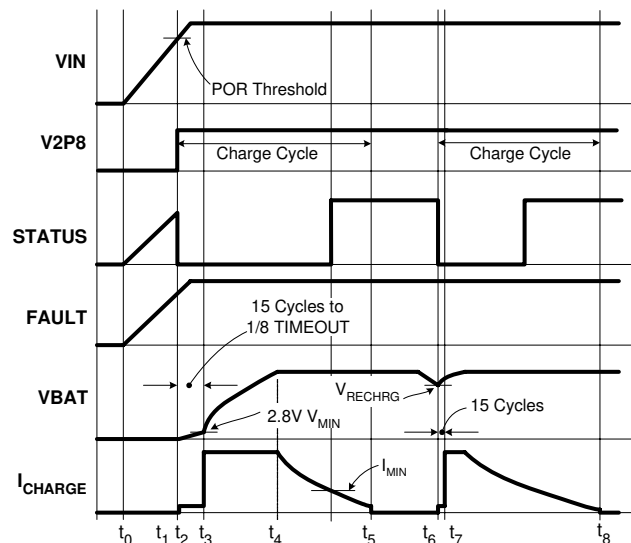

FIGURE 19. OPERATION WAVEFORMS
Figure 19 illustrates the typical signal waveforms for the linear charger from the power-up to a recharge cycle. More detailed Applications Information is given in the following.
The two indication pins, STATUS and FAULT, indicate a LOW and a HIGH logic signal respectively. Figure 19 illustrates the start-up of the charger between  $t_0$  to  $t_2$ .
A charge cycle consists of three charge modes: trickle mode, constant current (CC) mode, and constant voltage (CV) mode. The charge cycle always starts with the trickle mode until the battery voltage stays above  $V_{MIN}$  (2.8V typical) for 15 consecutive cycles of the internal oscillator. If the battery voltage drops below  $V_{MIN}$  during the 15 cycles, the 15-cycle counter is reset and the charger stays in the trickle mode. The charger moves to the CC mode after verifying the battery voltage. As the battery-pack terminal voltage rises to the final charge voltage  $V_{CH}$ , the CV mode begins. The terminal voltage is regulated at the constant  $V_{CH}$  in the CV mode and the charge current is expected to decline. After the charge current drops below  $I_{MIN}$  (programmable for the 4x4 and 5x5 package and programmed to 1/10 of  $I_{REF}$  for the 3x3 package; see "End-of-Charge (EOC) Current" on page 13 for more detail), the ISL6292 indicates the end-of-charge (EOC) with the STATUS pin. The charging actually does not terminate until the internal timer completes its length of TIMEOUT in order to bring the battery to its full capacity. Signals in a charge cycle are illustrated in Figure 19 between points  $t_2$  to  $t_5$ .
After a charge cycle completes, charging is prohibited until the battery voltage drops to a recharge threshold,  $V_{RECHRG}$  (see “Electrical Specifications” on page 3). Then a new charge cycle starts at point  $t_6$  and ends at point  $t_8$ , as shown in Figure 19. The safety timer is reset at  $t_6$ .
The trickle mode charge has a time limit of 1/8 TIMEOUT. If the battery voltage does not reach  $V_{MIN}$  within this limit, a TIMEOUT fault is issued and the charger latches up. The charger stays in trickle mode for at least 15 cycles of the internal oscillator and, at most, 1/8 of TIMEOUT, as shown in Figure 19.
The end-of-charge current  $I_{MIN}$  sets the level at which the charger starts to indicate the end of the charge with the STATUS pin, as shown in Figure 19. The charger actually does not terminate charging until the end of the TIMEOUT, as described in “Total Charge Time” on page 12. The  $I_{MIN}$  is set in two ways, by connecting a resistor between the IMIN pin and ground, or by connecting the IMIN pin to the V2P8 pin. When programming with the resistor, the  $I_{MIN}$  is set in Equation 6.